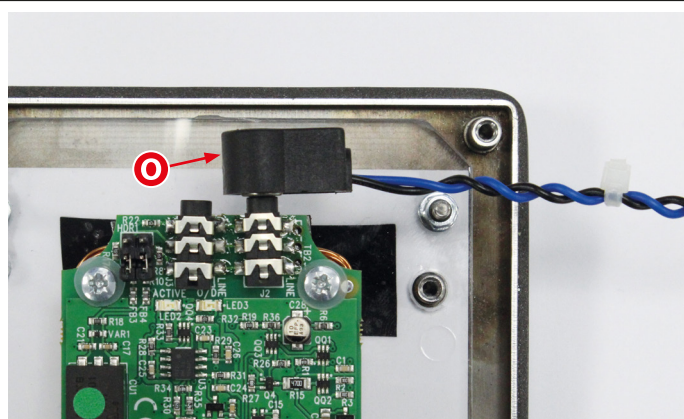

Fig. 29
18. Next take the **blue/black** audio cable and plug it into the audio jack input at the top right of the Induction Loop, as shown in **Fig.29, O**.